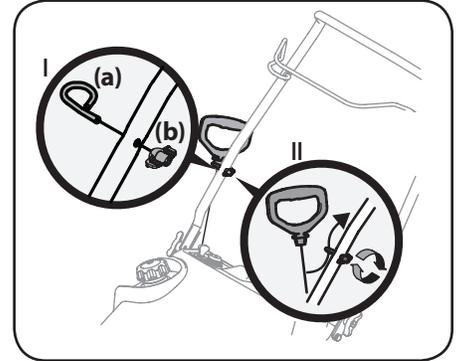

Figure 2-14
2. Place the eye bolt (a) and handle knob (b) on the upper handle as shown in Inset I in Figure 2-14. Do not fully tighten the hardware until instructed to do so.
4. Slip the recoil starter rope into the eye bolt (a) from the back of the snow blower. See Inset II in Figure 2-14.